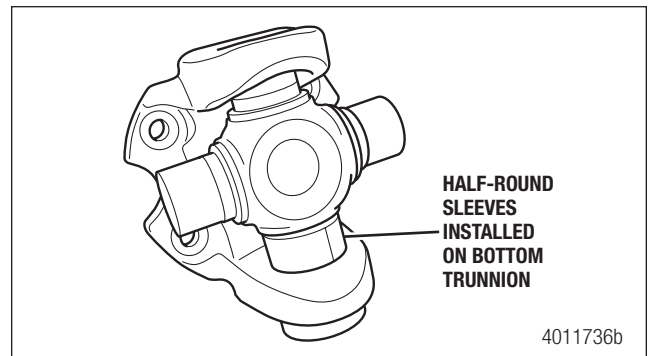

Figure 5.81
8. Rotate the drive flange 180 degrees (to the other end). Install the half-round sleeves on the bottom universal joint radius. Figure 5.81.